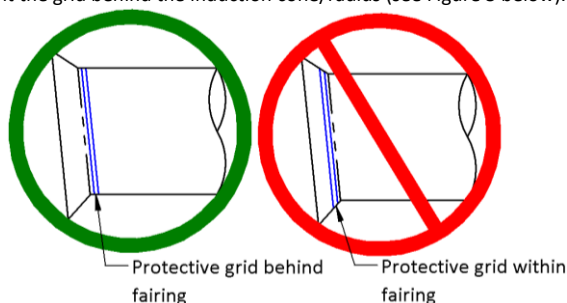

Figure 3 – Recommended location of protective grid
- Mount the grid behind the induction cone/radius (see Figure 3 below).